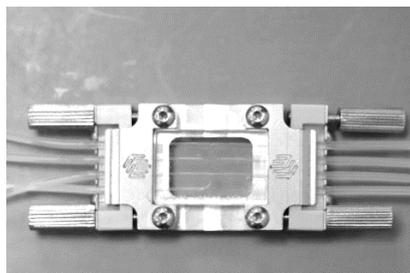

Figure 11
- Orientate the chip in the interface, see Figure 11.